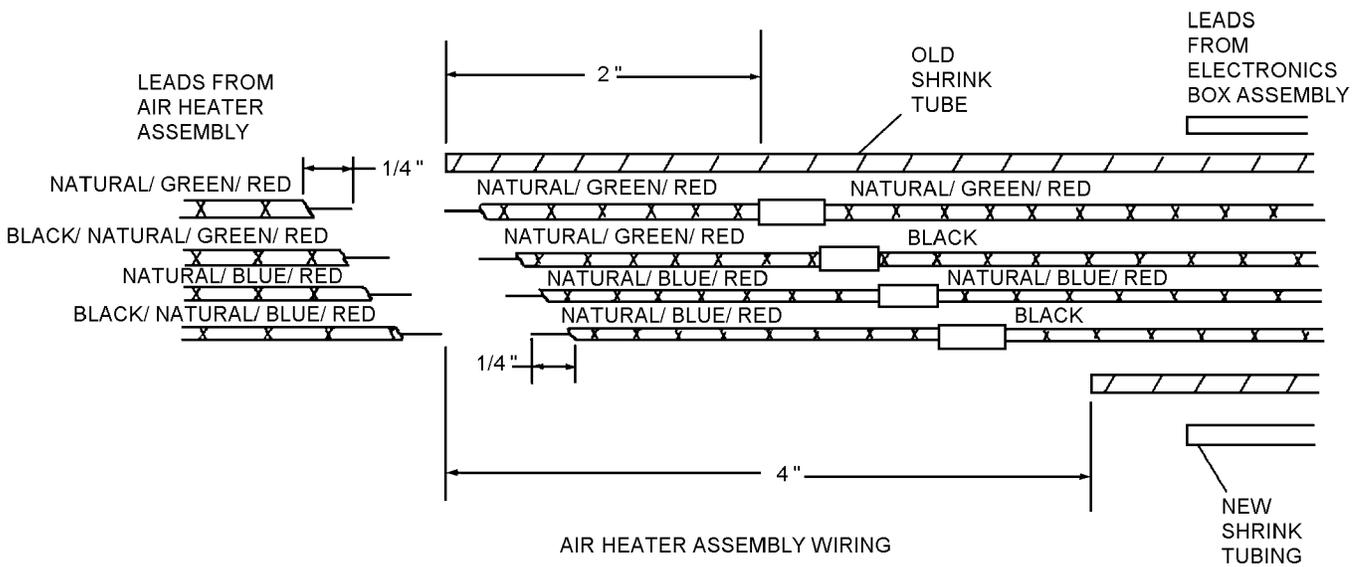

Figure 4-17. Air Heater Assembly Removal/Assembly
Index numbers refer to figure 4-17 unless otherwise noted.
2. Identify four wires from electronics box assembly and four wires from air heater assembly which have been crimped together with connectors (5). Tag all wires which do not have a corresponding color tracer.
4. Remove teflon tape from four connectors (5).
5. Cut connectors (5) out of wires as shown in figure 4-17, leaving wire ends exposed.